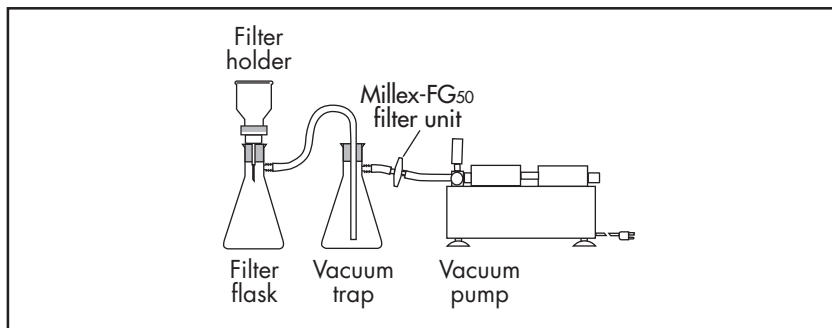

Figure 2. Proper use of vacuum trap and Millex-FG₅₀ filter.
- For maximum protection of the pump, use a Millex-FG₅₀ vent filter AND a vacuum trap to protect the pump from vapors and gases. The vacuum trap consists of a 1 liter filtering flask (Millipore cat. no. XX10 047 05), No. 8 stopper (XX10 047 08) and silicone tubing. Additional tubing is available as Millipore cat. no. XX80 000 24. This assembly is illustrated in Figure 2.